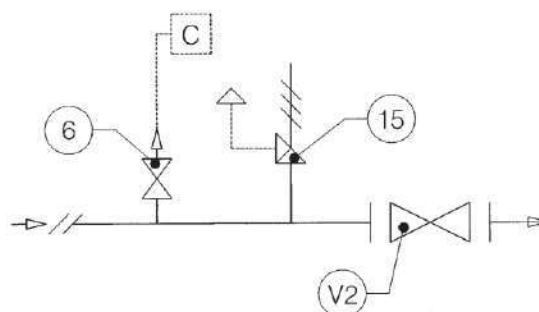

Fig. 8
3.1.1 DIRECT INSTALLATION IN THE LINE (FIG. 8)